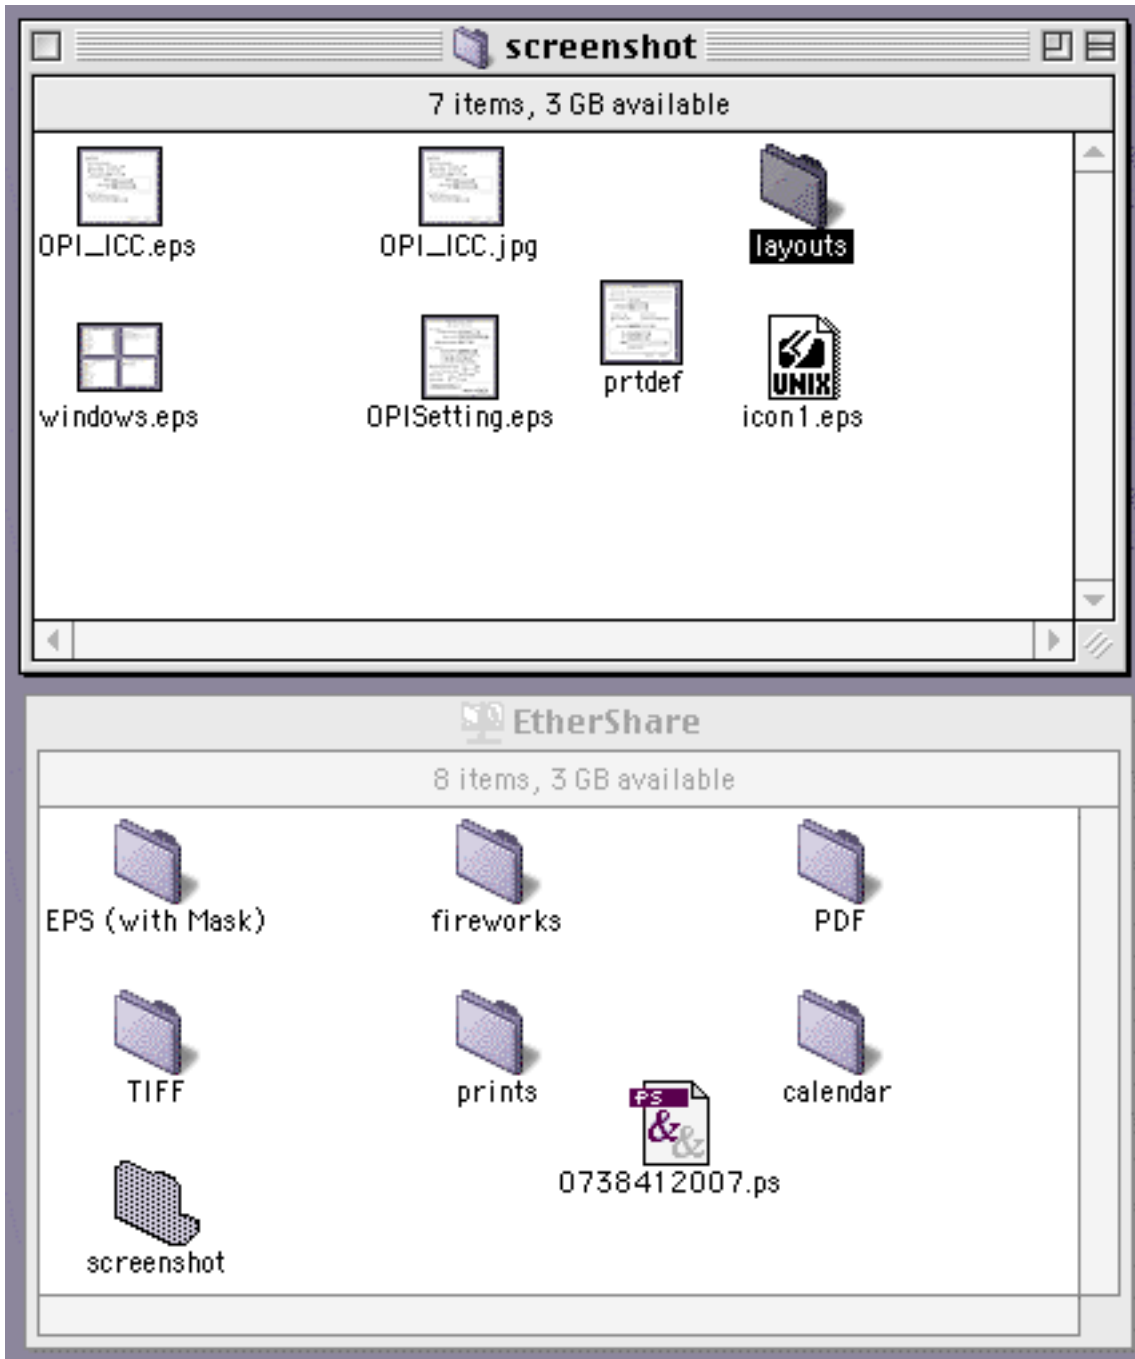

Figure 40. Sample shared directory and layout directory
4. Figure 40 on page 150 shows both the shared directory and the associated layout directory, where the OPI server will put a low resolution image for each image you place in the main shared folder.